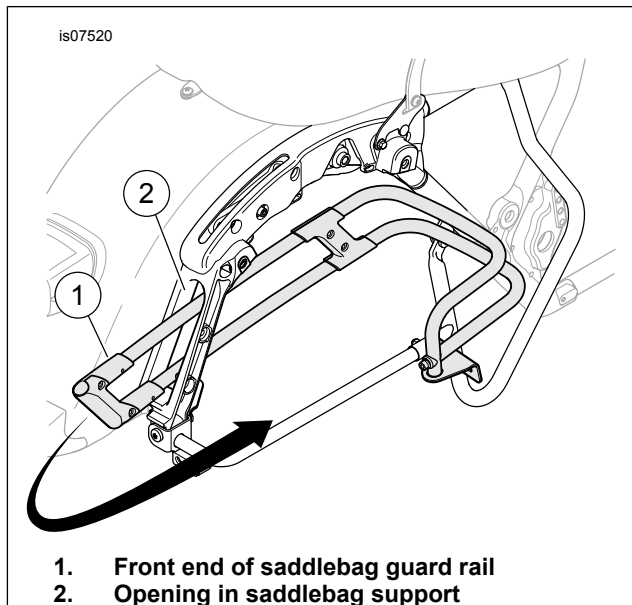

Figure 1. Installation Routing
2. Remove screw (4) and nut (5). Discard nut.
3. See Figure 1. From front to rear, route the front end of the guard rail (1) through the opening in saddlebag support (2). Then rotate the front end of the guard rail around to the proper orientation.